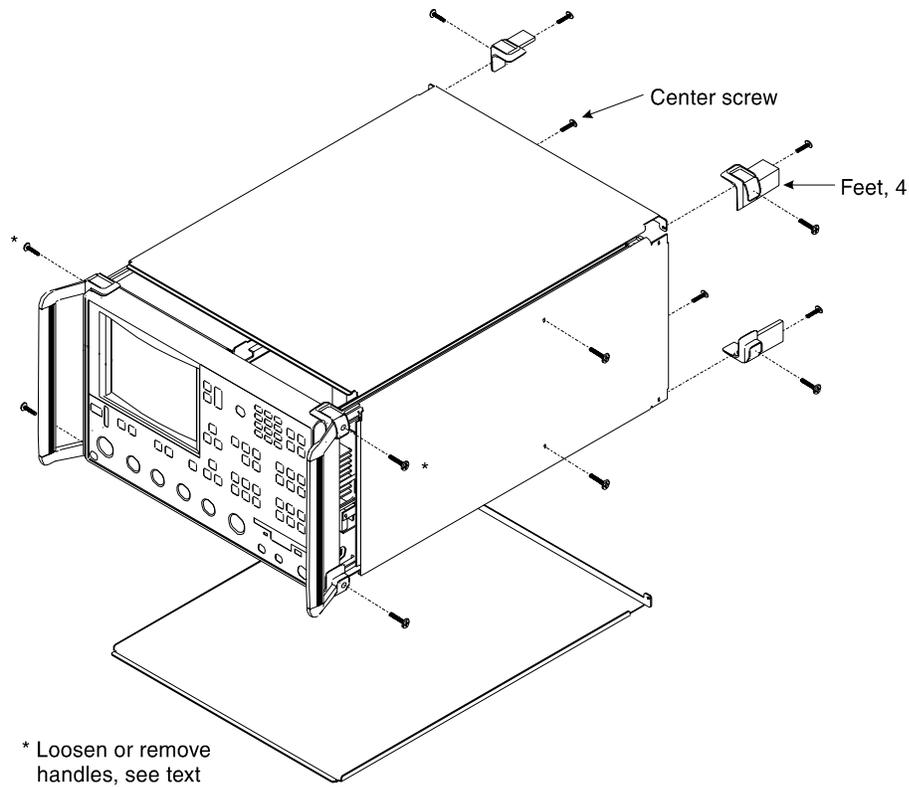

Figure 8-1. Exploded View of 371XXA Chassis Covers
- Remove the feet from the two top corners at the rear of the 371XXA (Figure 8-1).